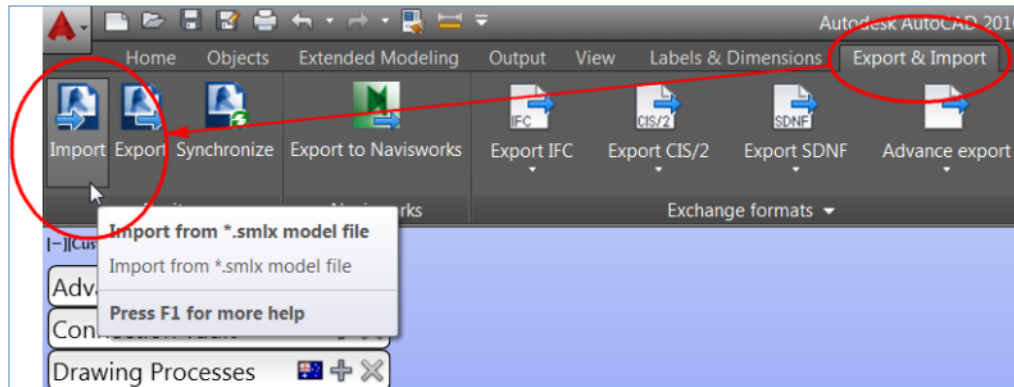

FIGURE 8: IMPORTING THE SMLX MODEL FROM AUTODESK REVIT
2. From the **Export & Import** ribbon tab > **Revit** ribbon panel, click **Import**; as shown in Figure 8.